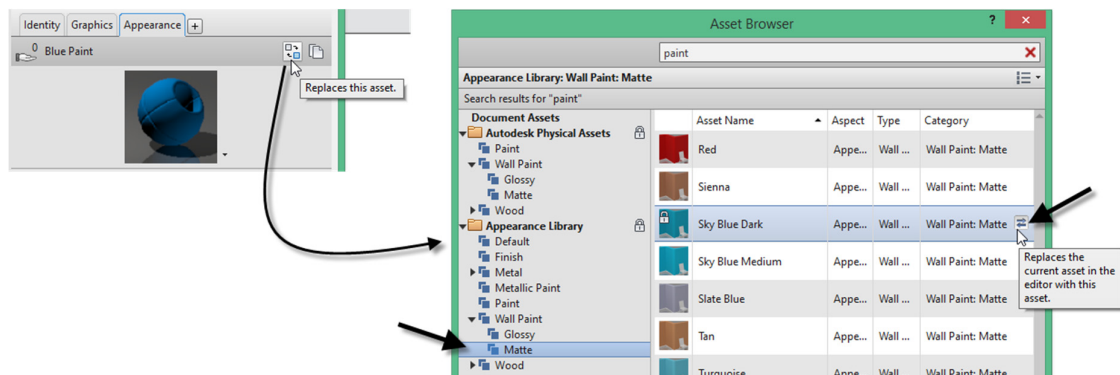

Figure 9—Replace the asset with a paint asset
- ⇒ On the right side, a small double arrow icon will appear. Click this to replace the current asset with this one (see Figure 9).